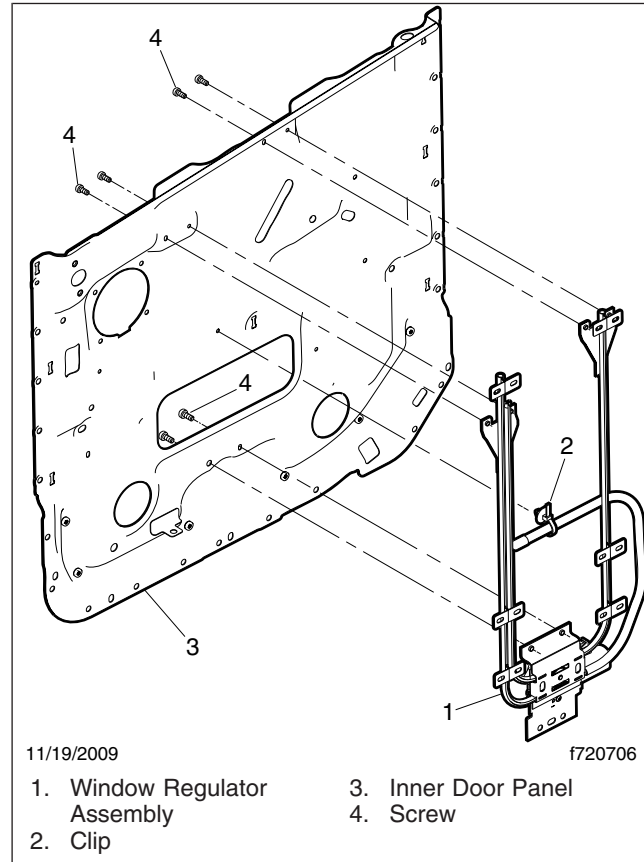

Fig. 5, Old Style Window Regulator Fastener Locations
14. Remove the six bolts that attach the window regulator to the inner door panel then cut the two zip tie fir trees to detach the window regulator assembly. See Fig. 5.